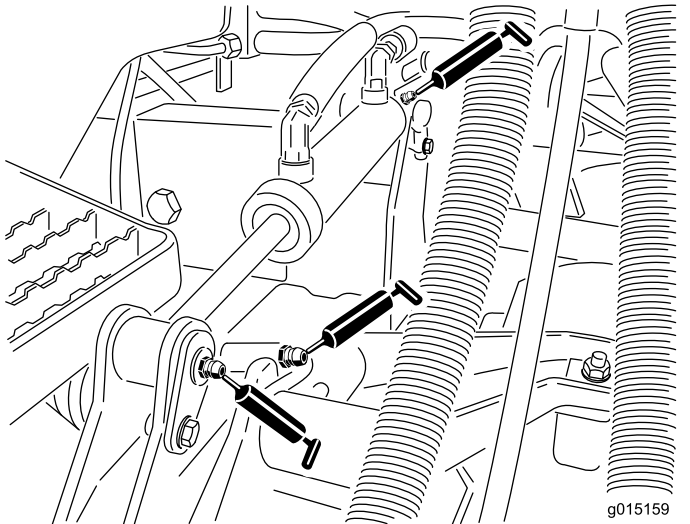

Figure 46
- Lift arm bushings (1 per cutting unit) (Figure 46)
- Lift cylinder bushings (2 per cutting unit) (Figure 46)